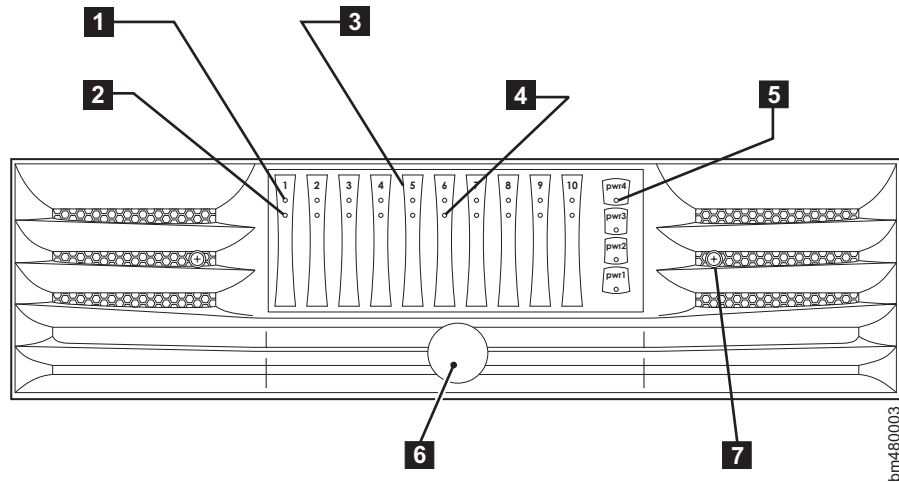

Figure 22. LEDs on the WWN card and bezel
1. Check the LED indicators on the WWN bezel (see Figure 22 on page 47) and verify that they reflect the actual status of the components.
Figure 22 shows the WWN card and bezel and the location of the LEDs and other parts of the bezel. The WWN bezel display provides a consolidated view of the power and status of the port blades, the CP blades, and the power supplies.